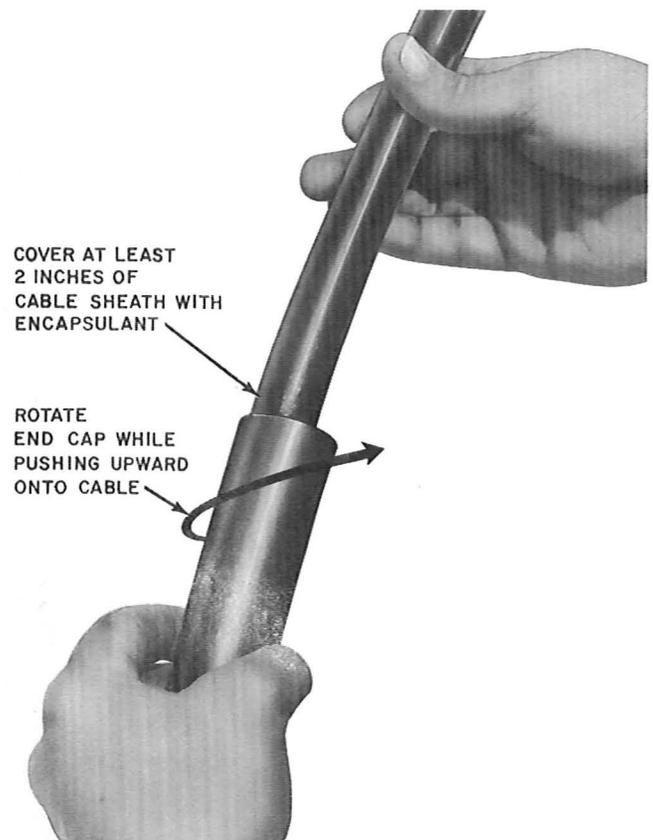

Fig. 10—Placing End Cap
- ◆(e) While rotating the cap slowly push it upward over the cable end (Fig. 10) until approximately two inches of cable sheath are immersed in the encapsulant.